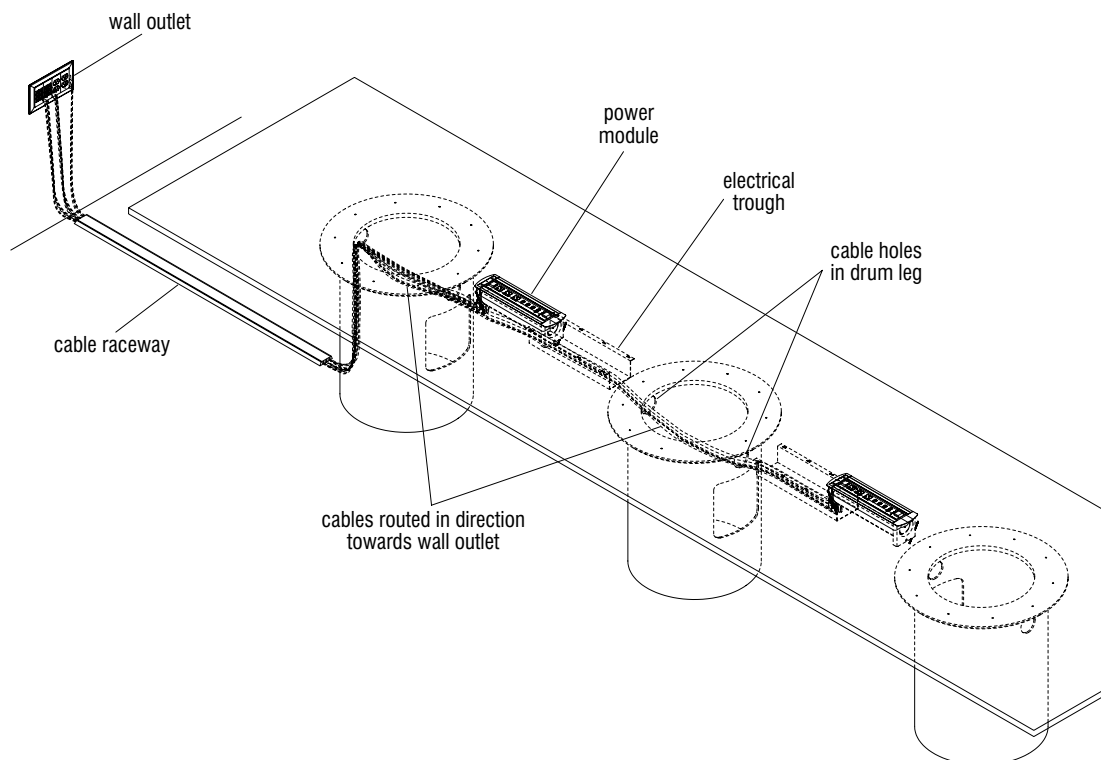

Figure 4
8. For cables routed along the floor, use cable raceways to keep cables protected and from being a tripping hazard (Figure 4).